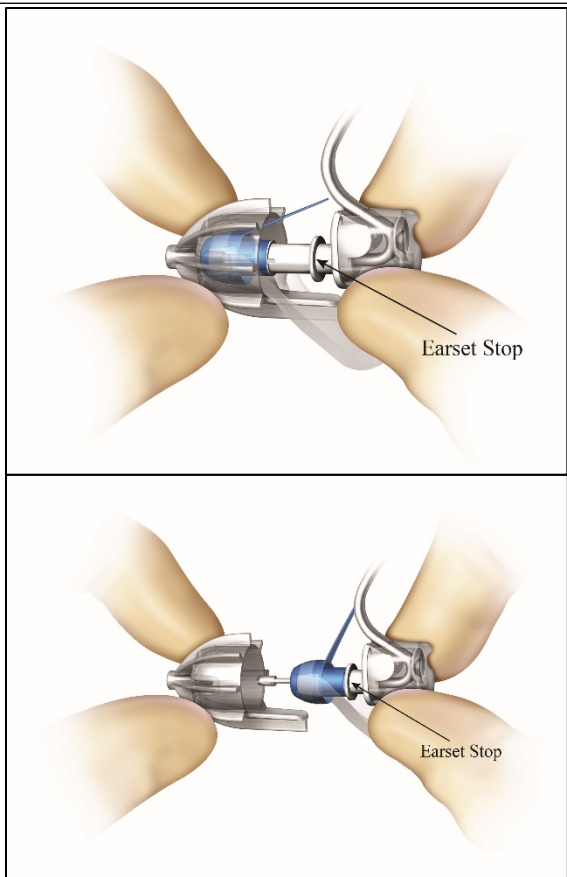
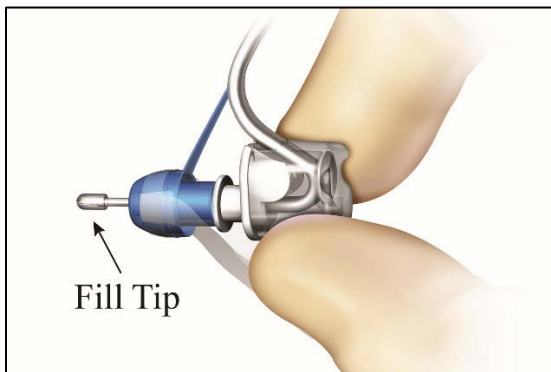

Figure 13. Attachment of Earplug to Earset
Figure 14. Earplug Properly Inserted
c. Push the Earset straight into the Earplug, taking care not to bend or kink the Fill Tip. Push the Earset into the Earplug until the Earplug abuts the Earset Stop (**Figure 13**). Once the Earset is fully inserted into the Earplug, the Earplug Cap will be released and can be discarded. Confirm the Fill Tip isn't bent or kinked (**Figure 14**).